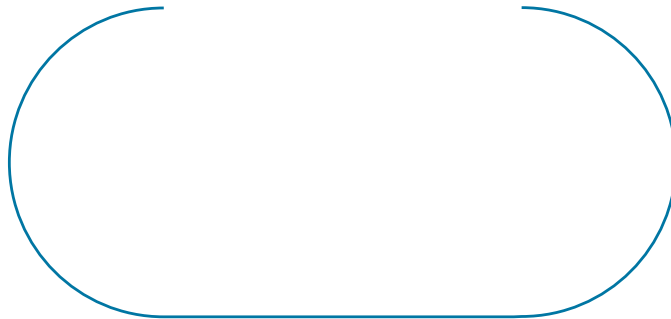

Figure 11–12 A planar analytical rigid part.
- You can sketch the profile of an axisymmetric two-dimensional analytical rigid part, as shown in Figure 11–13.